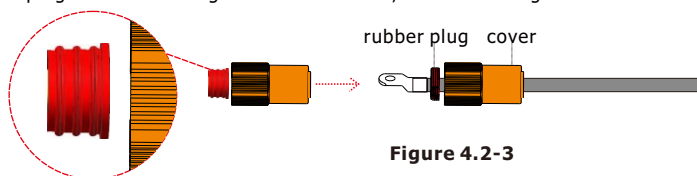

Figure 4.2-3
Step2: Press the cable through the rubber plug and cover , the smaller diameter opening of the rubber plug should be facing the metal terminal, as shown in Figure 4.2-3.